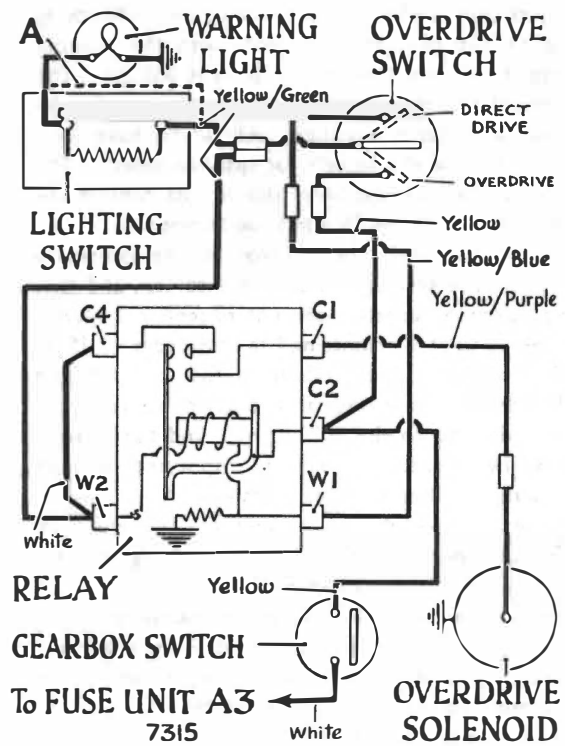

Fig. 13A. Circuit diagram Self Cancelling Switch. (A Rapier and Alpine IV).
**Self Cancelling Switch. (Fig. 13A)**